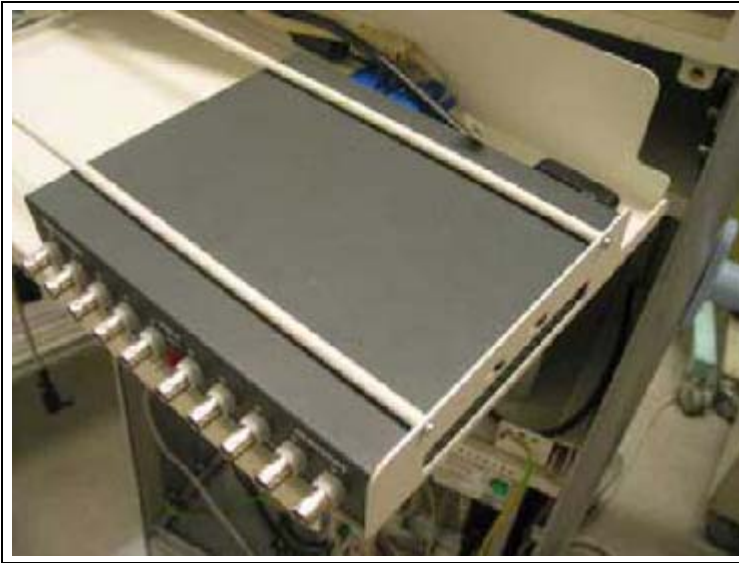

Fig. 4: Mounting
10. Mount the video splitter for the live monitor on the mounting rack as shown in (Fig. 4 / p. 8).